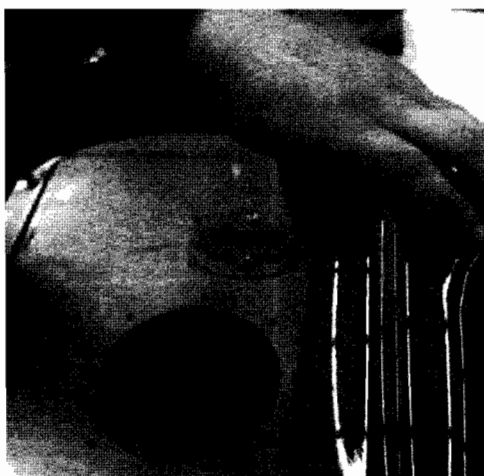

Figure 47
- ☐ Lift the vessel out of boiler from the gap over the chassis (*figure 47*) and fit the replacement vessel to the boiler in reverse order to removal, ensuring that sealing washer is fitted to pipe connection before tightening, replace the washer if necessary.